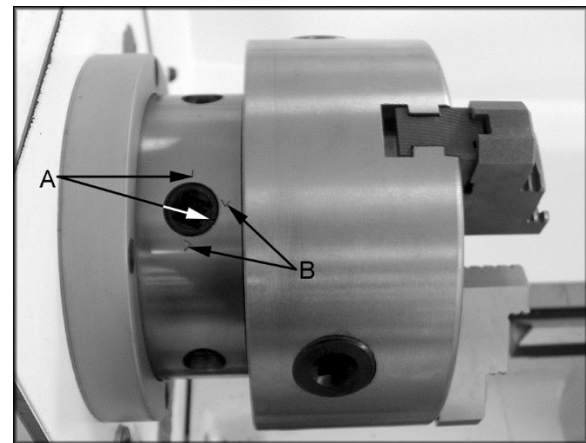

Figure 5-3
1. Support the chuck while turning three camlocks 1/4 turn counter-clockwise with the chuck key enclosed in the toolbox. Figure 5-3 shows the cam in the secure position. Line up the two marks (A, Figure 5-3) for removal.
5. Lift chuck up to spindle nose and press onto spindle. Tighten in place by turning cam locks 1/4 turn clockwise. The index mark (A, Figure 5-3) on the camlock should be between the two indicator arrows (B, Figure 5-3). If the index mark is not between the two arrows, remove chuck and adjust the camlock studs by either turning out one full turn (if cams will not engage) or turning in one full turn (if cams turn beyond indicator marks).